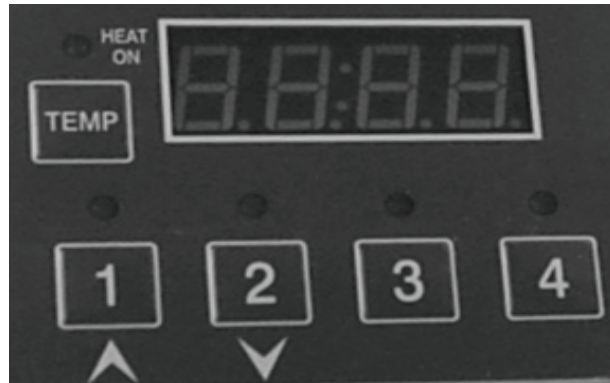
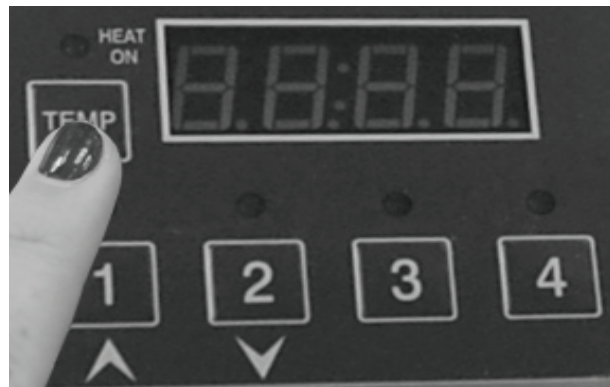

Figure 1
Figure 2
- A. For approximately 1 second, press and hold the TEMP button on the left display while at the same time pressing the product button to program (see Figure 1). The display window will show “- - - -”. Enter the password 4,3,2,1 (password numbers will not appear on the display). The display window will then show the current preset cook time and the selected product LED will flash.
- B. Press the UP(1) and DOWN(2) arrow buttons to adjust the cook time.
- C. Press the TEMP button to save the new cook time value (see Figure 2). Afterwards, the current set point temperature will be displayed.
- D. Press the UP(1) or DOWN(2) arrow button to adjust the temperature.